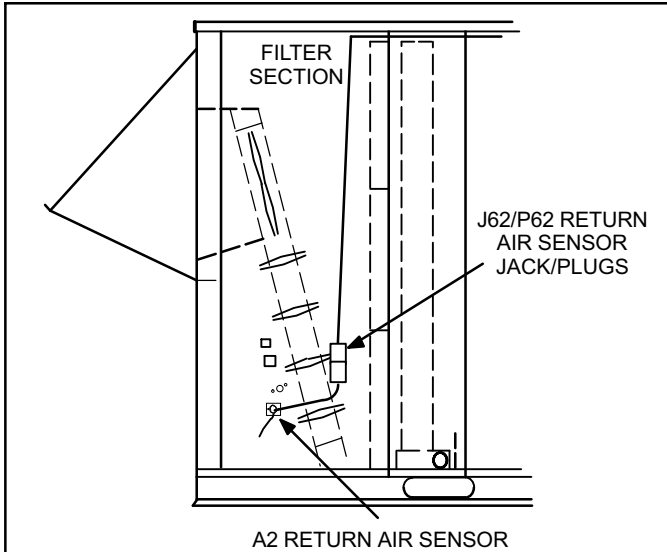

Figure 7. A2 Return Air Sensor
5. Open filter access door, install A2 sensor (location shown in figure 7) with two #10-16 x 5/8 SMS screws. Get harness J62 from bag assembly; connect one end to A2 sensor and fit the other end through the conduit on the indoor coil and then through the compressor wall conduit. Connect J62 female terminals to the J62 male terminals from sub-assembly.
2. Insert return air sensor probe into hole (location shown in figure 7). Secure with screws provided.